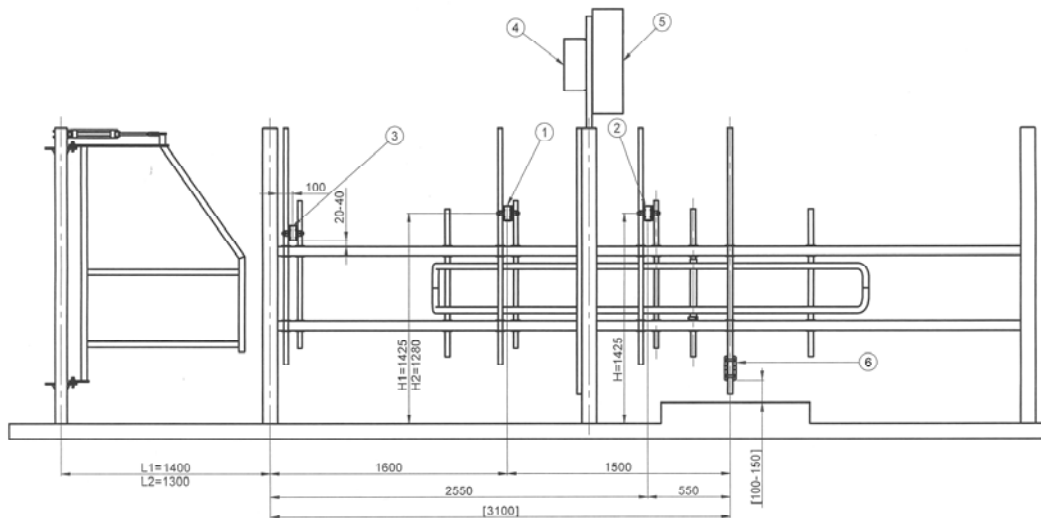

Figure 12: System Photocells and Antenna
The photocells and antenna are to be installed as shown in Figure 12.
- ❑ If the ID tag is on the rear leg, the antenna has to be placed 550 mm (22 in) before photocell #1 (see Figure 12).